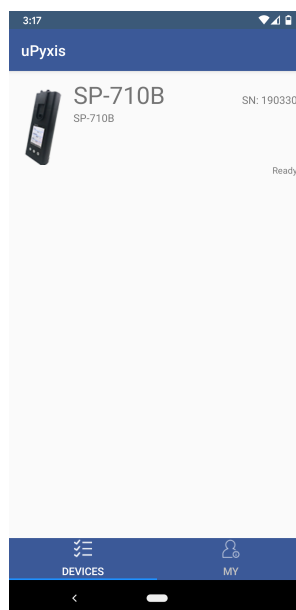

Figure 45.
4. If the connection is successful, the SP-710B and its Serial Number (SN) will be displayed (Figure 45).